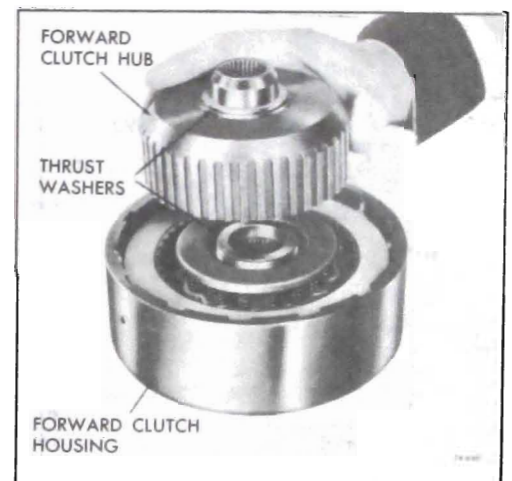

Figure 76-646
3. Remove the forward clutch hub and thrust washers. See Figure 76-646.